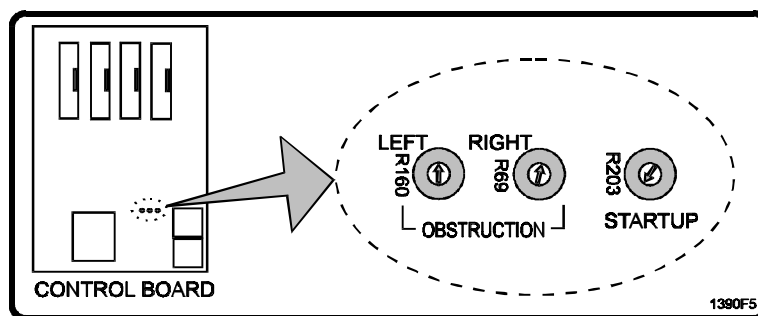

Figure 15. Gate Sensitivity Adjustments Location.
- ◆ Before starting the adjustments, verify that the Left and Right reverse pots are set fully clockwise, and the Start-up pot is set to the 11 o'clock position (See Fig. 15).